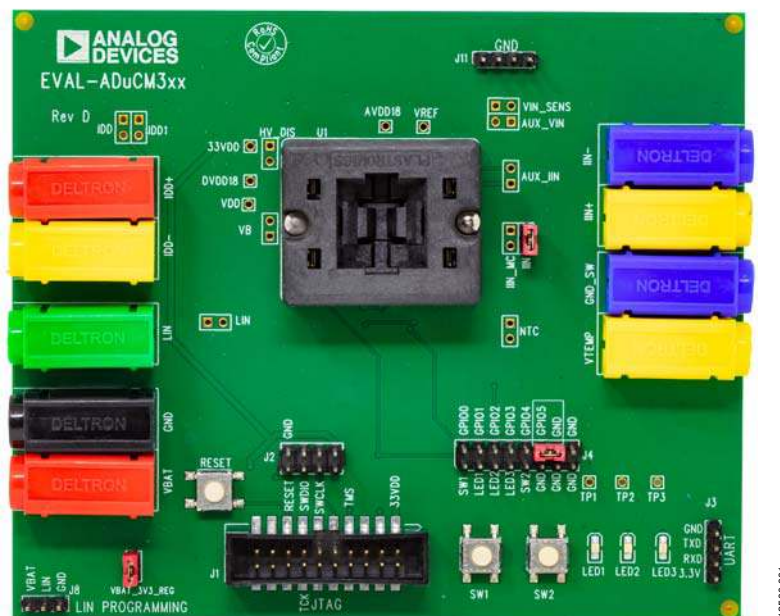

Figure 1.
4. Ensure that the board jumpers are in position, as shown in Figure 1.